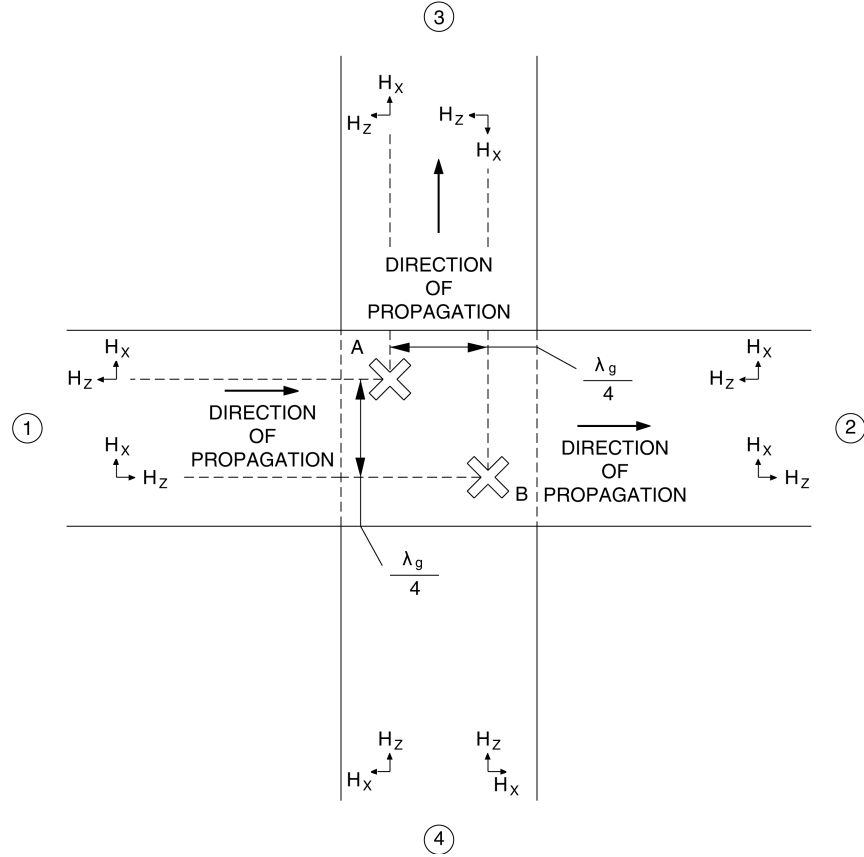

Figure 17. Figure orientation of the components of the magnetic field in a cross-guided directional coupler.
Figure 17 shows the orientation of the magnetic field components,  $H_x$  and  $H_z$ , in each arm of a cross-guide directional coupler. The incident signal is fed into arm ①. Since coupling of this signal in the coupler is due essentially to the magnetic field, the electric field is not illustrated in the figure.